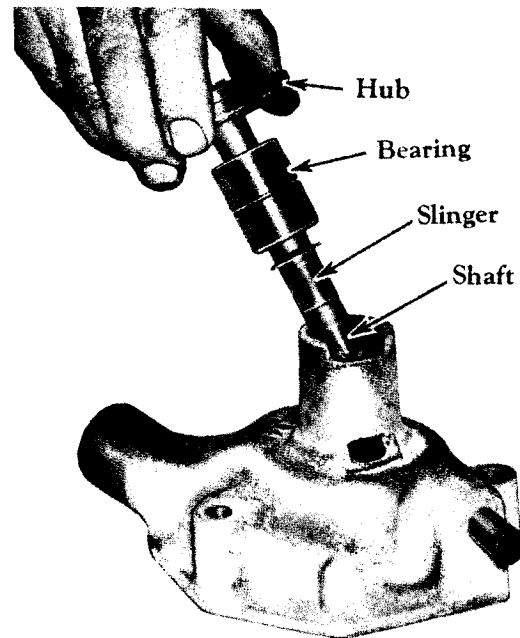

Fig. 10 - Installing the Shaft Assembly.
2. Install the pump shaft, bearing and slinger assembly in the front end of the pump body (Fig. 10). Tap the shaft into place so that the bearing is firmly seated and clears the front snap ring groove.